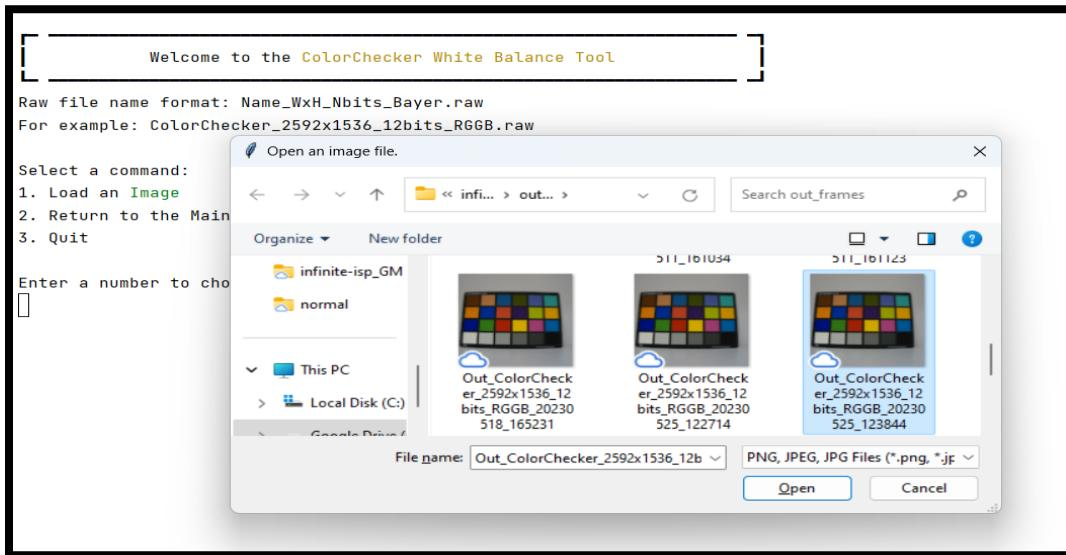
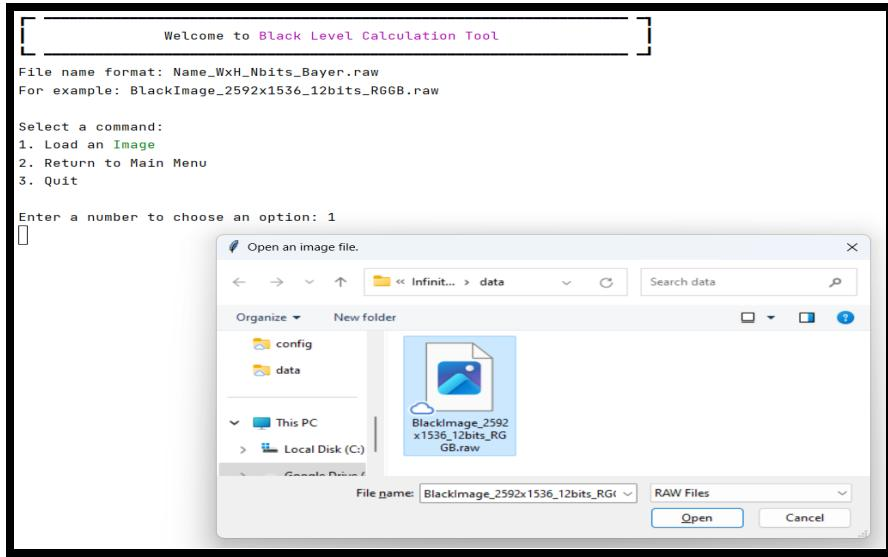

Figure 6: Example to load an image
Figure 15: Loading black image for BLC
For BLC, WB, CCM, BNE & LNE, loading an image is a must task to run the module shown in Figure 6.
- Select option 1 from BLC menu to load such a reference image Figure 15 as described already in load image section in Figure 6.
- Load the image as depicted in Figure 6. For white balance module, user need to ensure that the selected image contains a color checker, as it is required for the accurate calibration. Starting this module will, opens up a dialogue box, allowing user to select an image (either raw or RGB) for white balance calibration.